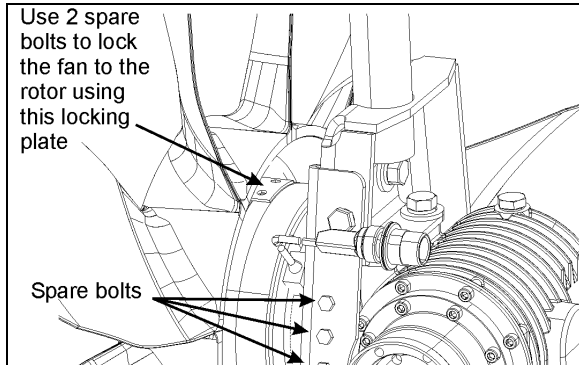

FIGURE 24: MECHANICAL LOCKING
5. Screw in and tighten the spare bolts (Fig. 24).